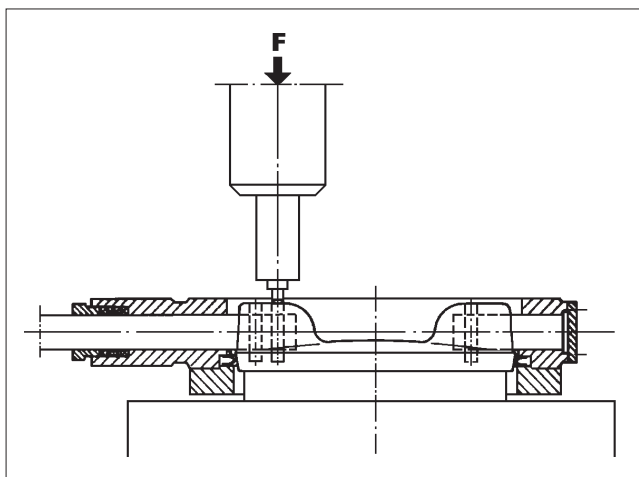

Fig. 17 Pressing the pins
- Support the disc well in a horizontal position during mounting of the pins. Push the new pins into the holes and press them in a press to final form (see Fig. 17). Use slightly larger pressing tool than the pin diameter. See Table 6 for force needed.
- Install the gasket (18) and the blind flange (10). Screws of the blind flange must be tightened evenly, see Table 7. An unevenly tightened flange will damage the seat.